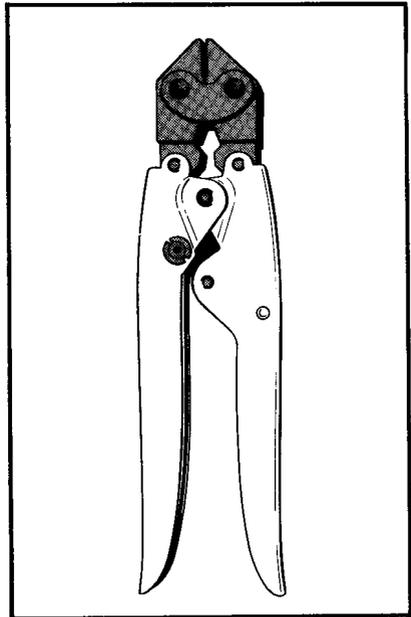

FIGURE 6. Type GHT-1 Compression Tool
4.01 The Type GHT-1 grounding harness compression tool is used to connect the grounding harness to the shield. The tool is equipped with a special ratchet and will not release until the proper compression pressure is reached at the connection. See Figure 6.